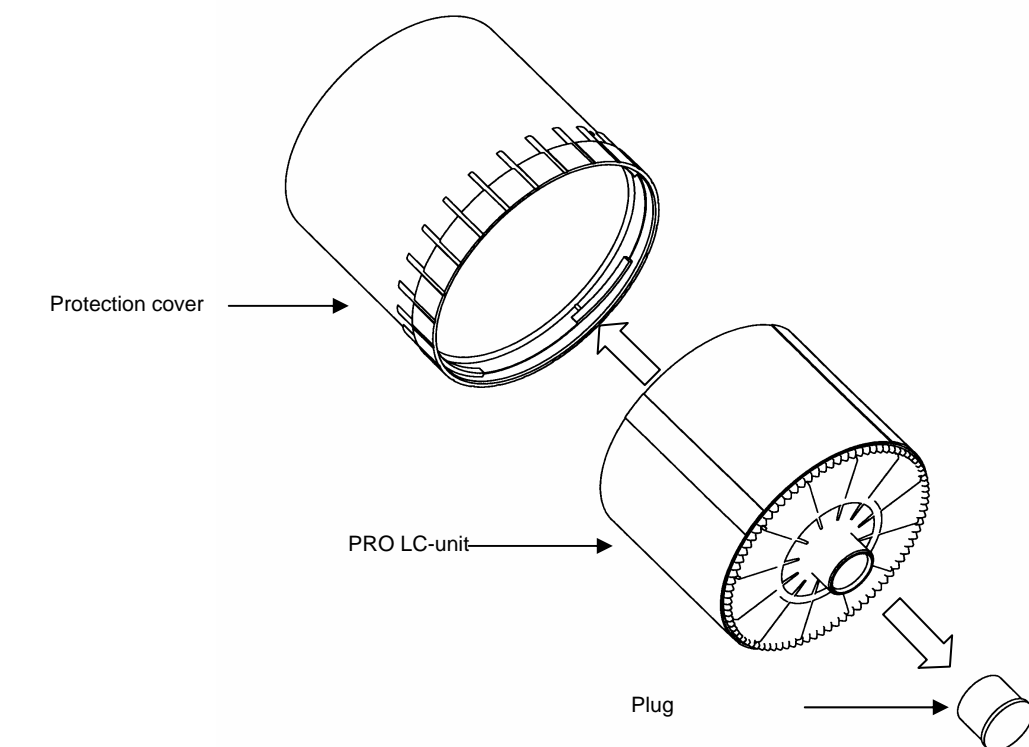

Figure 5
- ◆ Place the PRO LC-unit inside the protection cover and remove the plug of the PRO LC-unit (refer to figure 5).